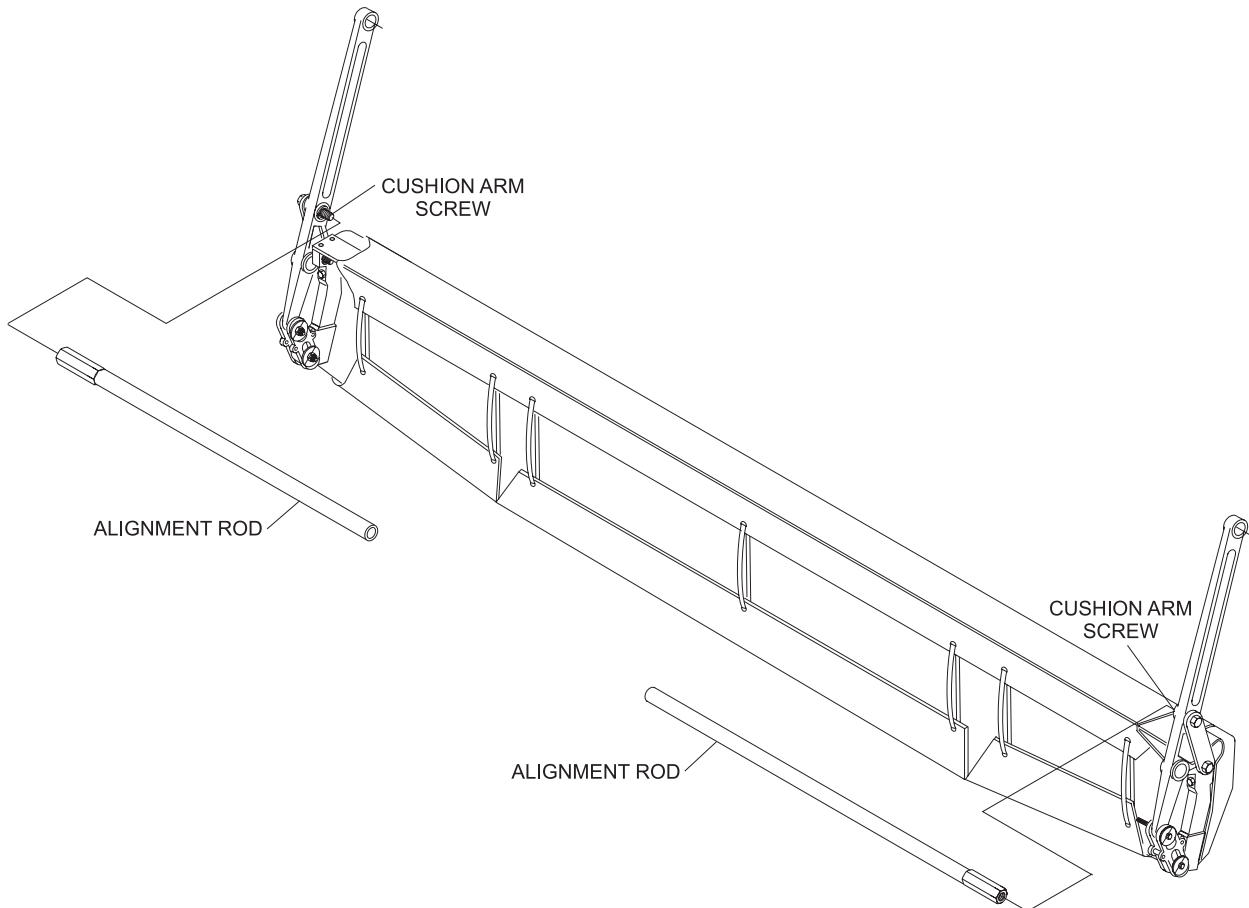

Figure 4
- Install the two alignment rod assemblies onto the cushion arm screws (12-252352-000). Refer to *Figure 4*.